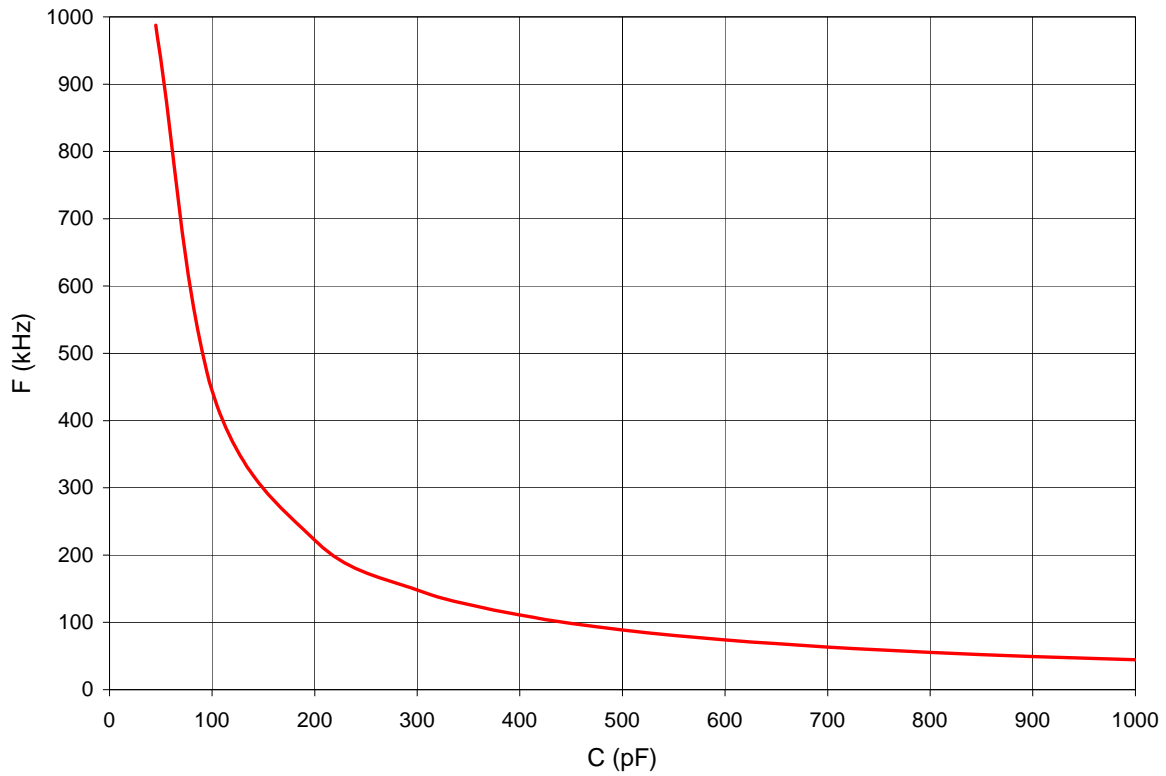

**Figure 71. Connecting the On-Chip Oscillator to an External RC Network**
Figure 71 displays a recommended configuration for connection with an external resistor-capacitor (RC) network.